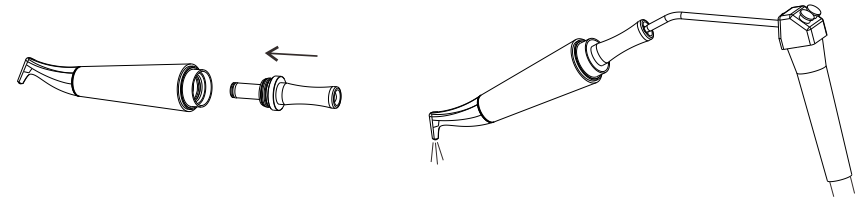

Figure 12 Handpiece cleaning
- Remove the handpiece, insert the cleaning nozzle into the handpiece until a "click" sound, ensure the cleaning nozzle is securely fastened. Use the 3 way syringe to blow air inside the handpiece by the cleaning nozzle, keep the air running for 3~5 seconds to thoroughly clean the handpiece tubes. (See figure 12)